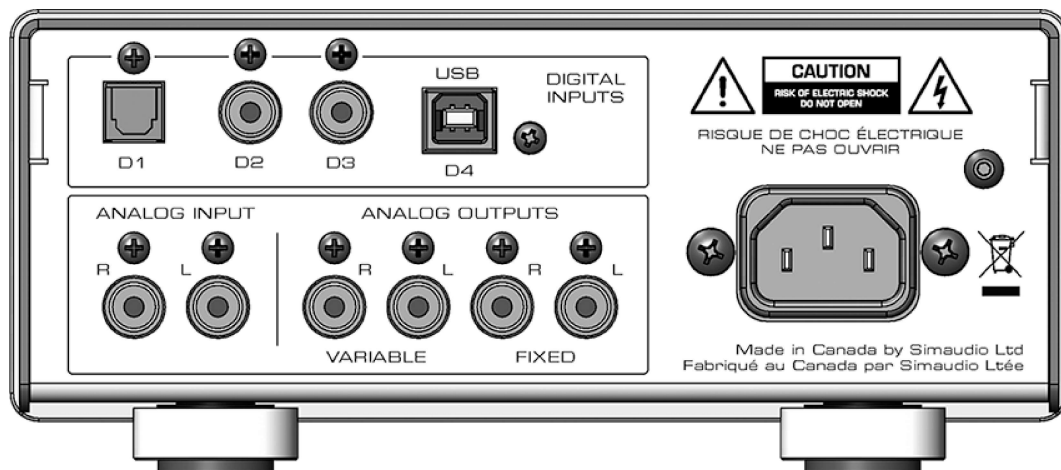

Figure 2: MOON 230HAD Rear panel
The rear panel will look similar to Figure 2 (above). There are four (4) digital inputs labeled D1, D2, D3 and D4. The D1 input is on an optical Toslink connector; both the D2 and D3 inputs are on a S/PDIF connector; the D4 input is on a USB type B connector. Directly below there is one (1) pair of single-ended analog inputs on RCA connectors labeled "A1".